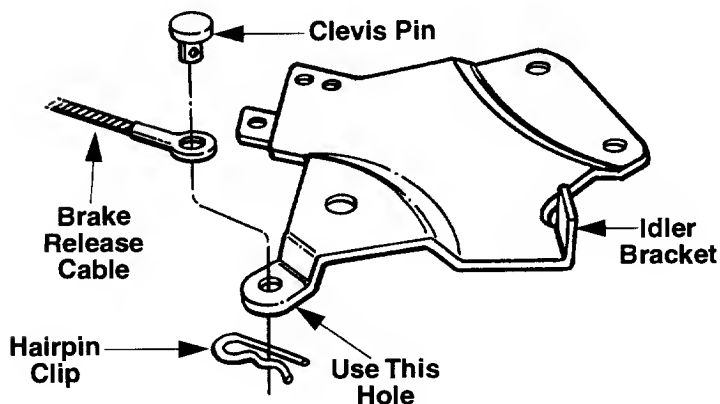

FIGURE 6B.—Underneath Tractor
11. Secure the brake release cable to the tractor idler bracket with clevis pin and small hairpin clip, using the hole in the idler bracket as shown in figure 6B.